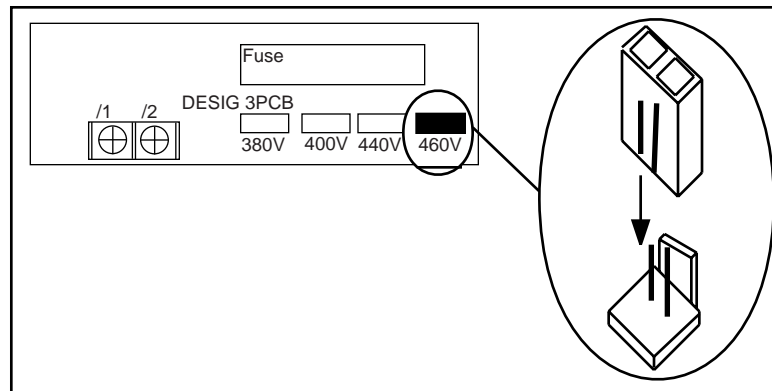

Figure 3-1: Models 4041-AFG+ to 4096-AFG+
5. For Models 4041-AFG+ and greater, ensure the jumper plug is inserted in the printed-circuit board (3PCB), which is below the control board. See below Figures 3-1 and 3-2.